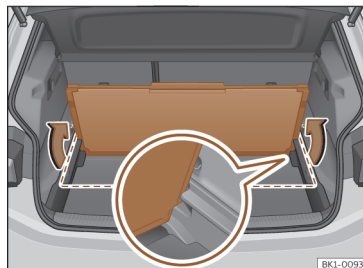

Fig. 156 In the luggage compartment: attach the second luggage compartment floor.
- Once folded, lift it up and insert it into the side brackets, with the open side facing downwards >>> **Fig. 156** (enlarged image).